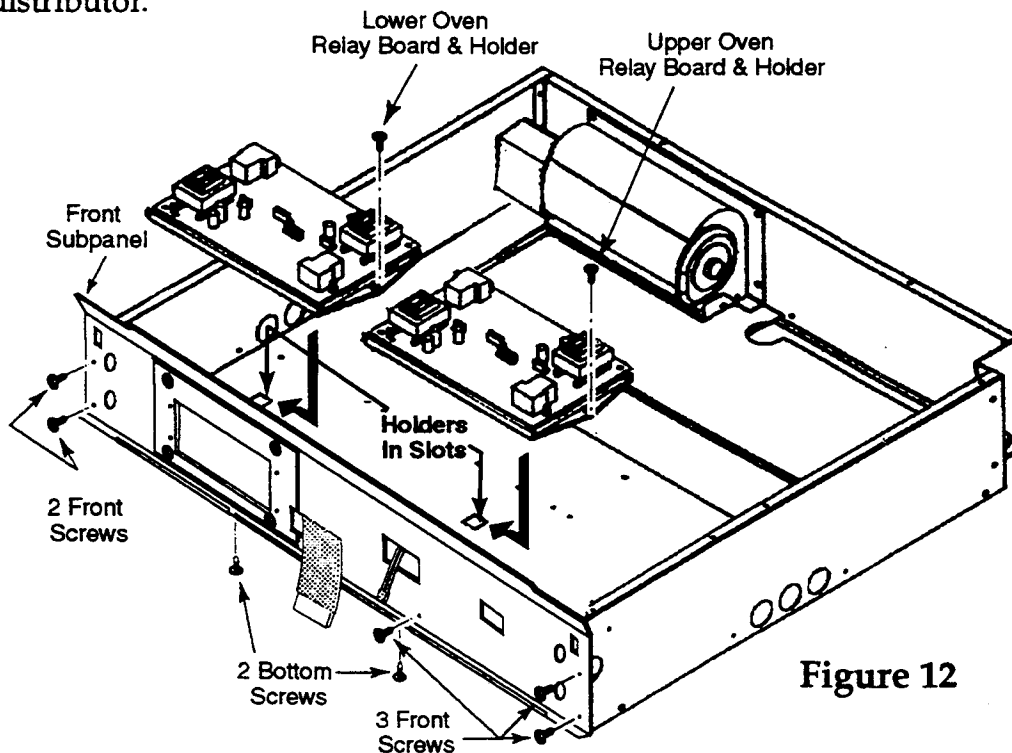
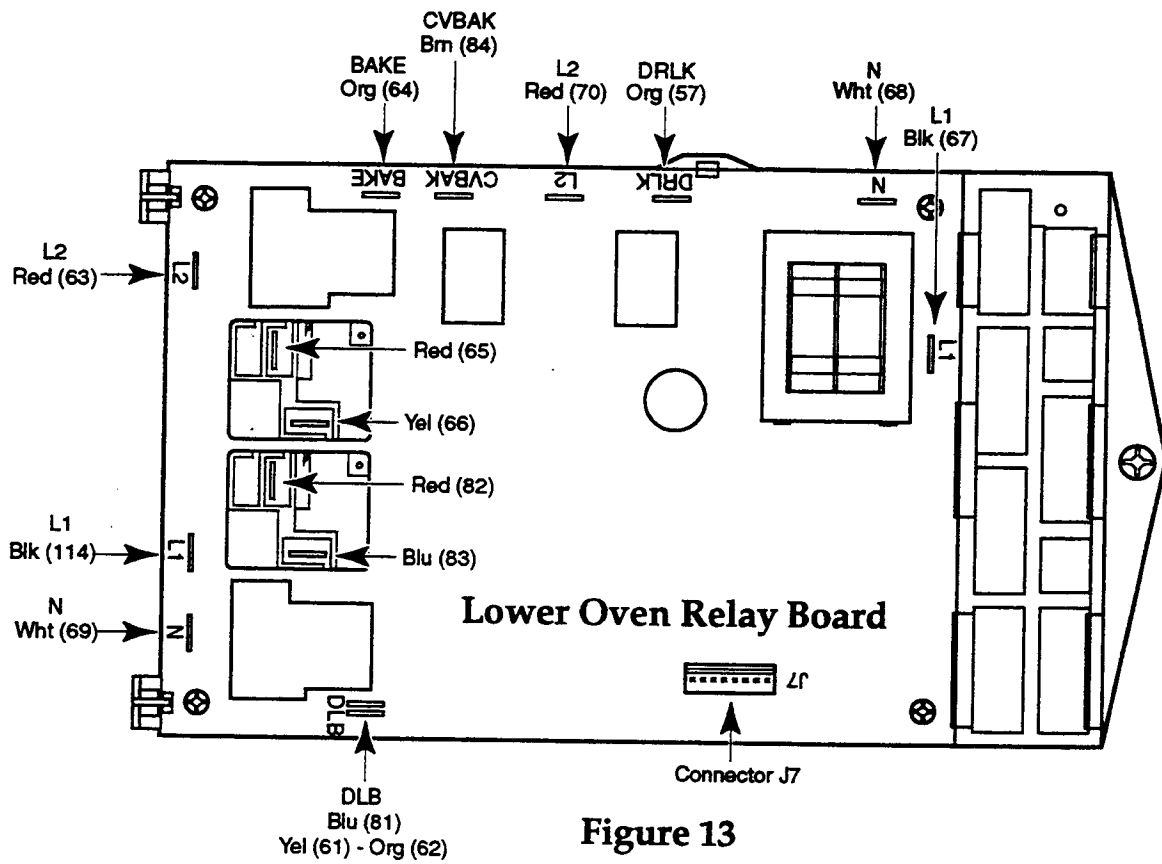

Figure 12
Figure 13
Refer to Figure 12 below, and Figures 13 and 14 on the next page, for the following steps.
4. Remove the front subpanel (see Figure 12).
6. Remove the screw from the board holder, (see Figure 12), slide the holder to the right to unhook it from the slot in the chassis, and remove the board and holder.